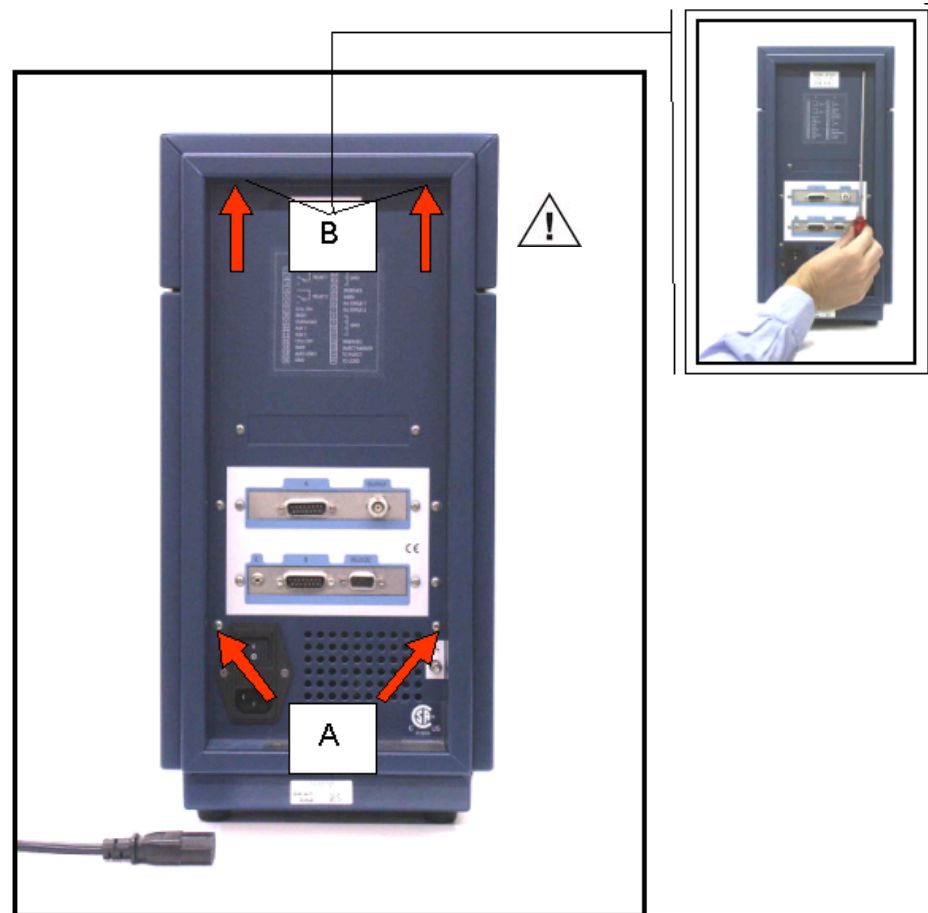

Figure 2. Connector panel of the DECADE II.
Both circuit boards are mounted on a separate metal frame, which are fixed on the rear panel of the detector. The circuit boards can be accessed by removal of the rear panel by means of the four M3 Phillips screws as depicted in figure 2. The screws are marked with red arrows and the letters A and B.
- Fix rear panel on the DECADE II (see figure 2).